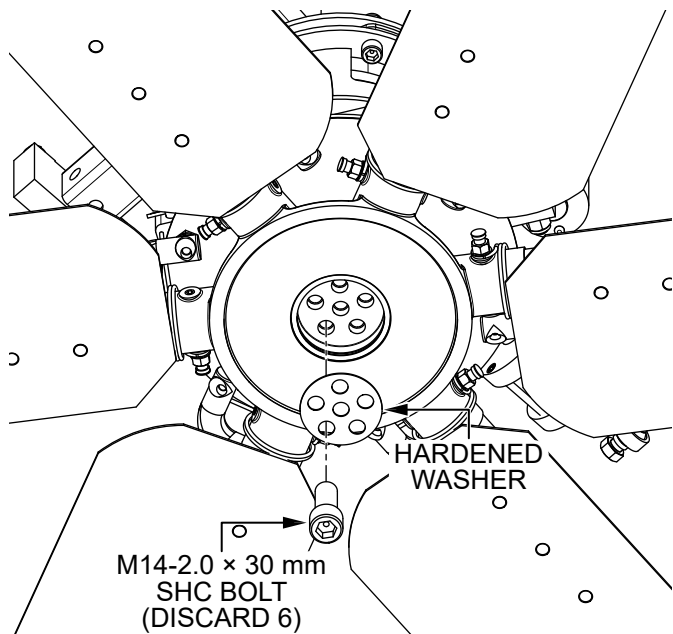

Figure 55. Remove Left-Side Spider Hardware
3. Remove and discard the **six M14-2.0 × 30 mm SHC bolts** and **one hardened washer** (Figure 55) securing the left-side spider assembly to the bottom of the left-side hydraulic motor.